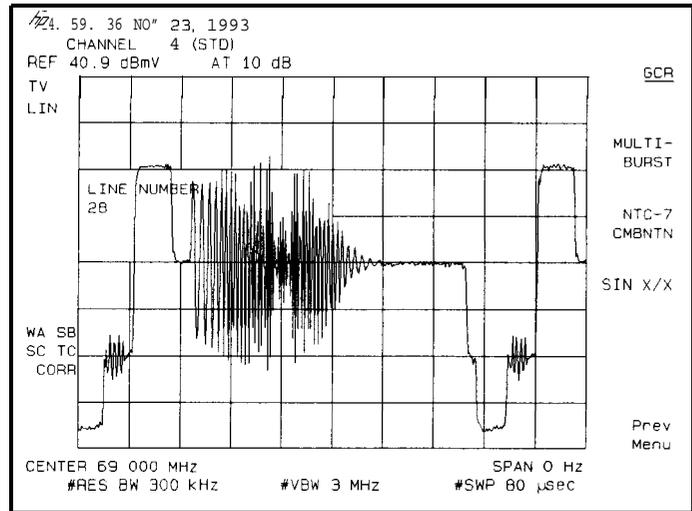
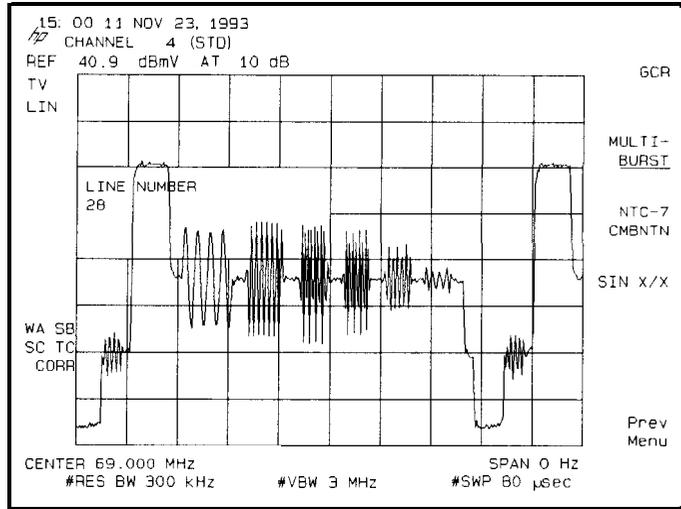
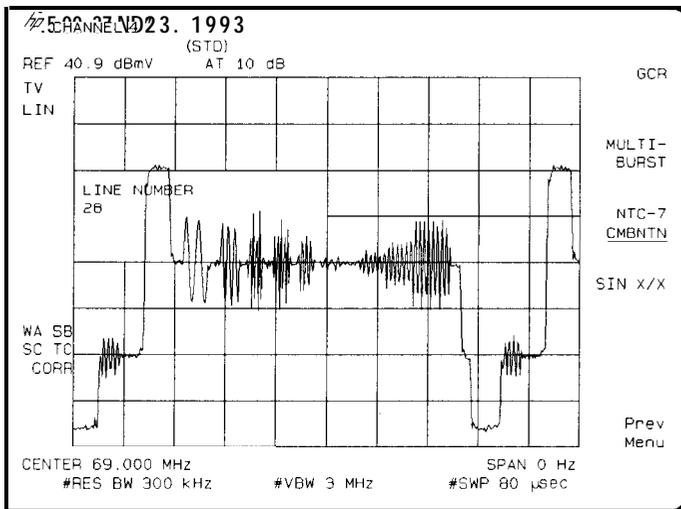
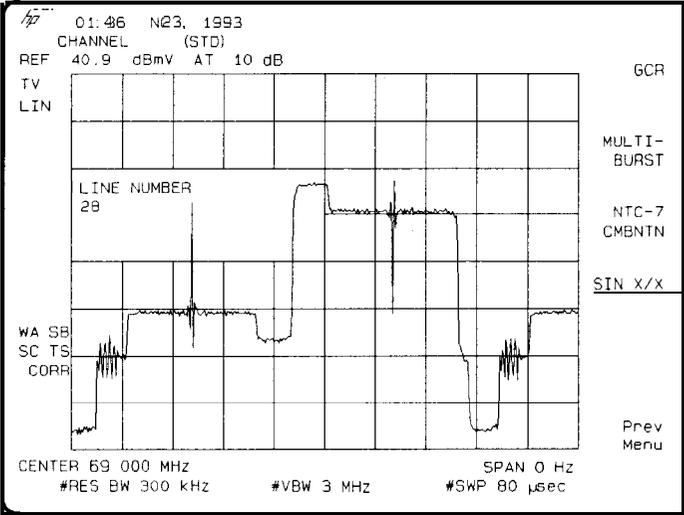

Figure 2.32. Ghost Cancellation Reference (GCR)
Figure 2-33. FCC Multi-Burst Test Signal
Figure 2-34. NTC-7 Combination Multi-Burst Test Signal
Figure 2-35. Sine XIX Test Signal
- a. The analyzer automatically defaults to line number 19. An appropriate test signal may or may not be present at this line number. Test signals can be GCR, FCC multiburst, NTC 7 combination multiburst, or sin x/x. Refer to Figure 2-32, Figure 2-33, Figure 2-34, and Figure 2-35.
- d. Press **Select Test Sig** to select the displayed test signal. The selections are **GCR** (Ghost Cancellation Reference), **MULTI-BURST** (FCC multi-burst), **NTC-7 CMBNTN** (NTC-7 combination multi-burst), or **SIN X/X** (sine x/x). Refer to Figure 2-32, Figure 2-33, Figure 2-34, and Figure 2-35.